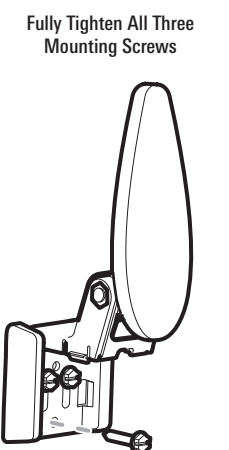

Figure 20
9. Re-position the transducer assembly against the transom of the boat, then hand-install all three screws. Make sure that the transducer location and the pivot angle have not changed, then fully tighten all three mounting screws (Figure 20). Snap the pivot back down. If you have performed the preceding procedures correctly, the transducer should be level and at the right height for optimal operation.
3. Re-position the transducer assembly against the transom of the boat, then hand install the first three screws (two on the outside edges and one in the 3rd mounting hole). Make sure that the transducer location and the pivot angle have not changed, then fully tighten all three mounting screws (Figure 20). **Hand-tighten only!**